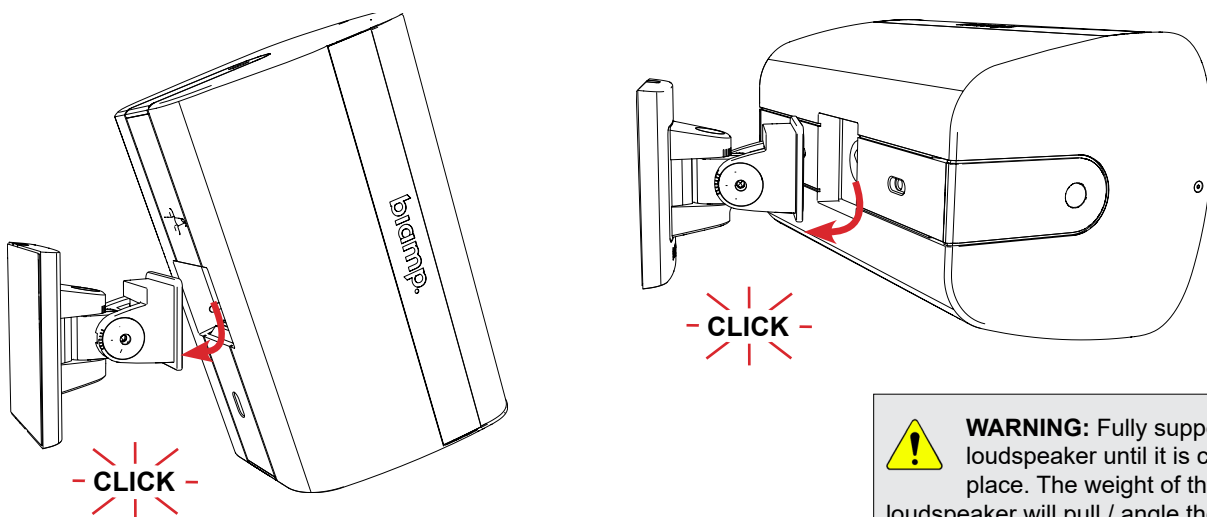

Figure 2. Mount loudspeaker on bracket
2. Mount the loudspeaker to the bracket (Figure 2).